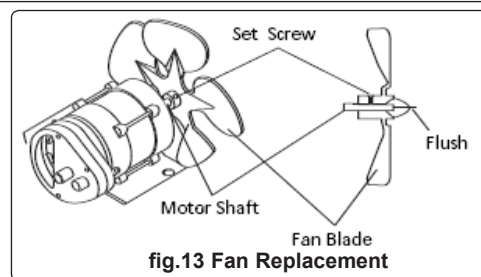

fig.13 Fan Replacement
6.8 Fan. Fan blades (fig.13) should be cleaned at least once per heating season (depending on environment). Remove the outer case and clean the fan blades with a damp cloth. Dry fan thoroughly using compressed air.